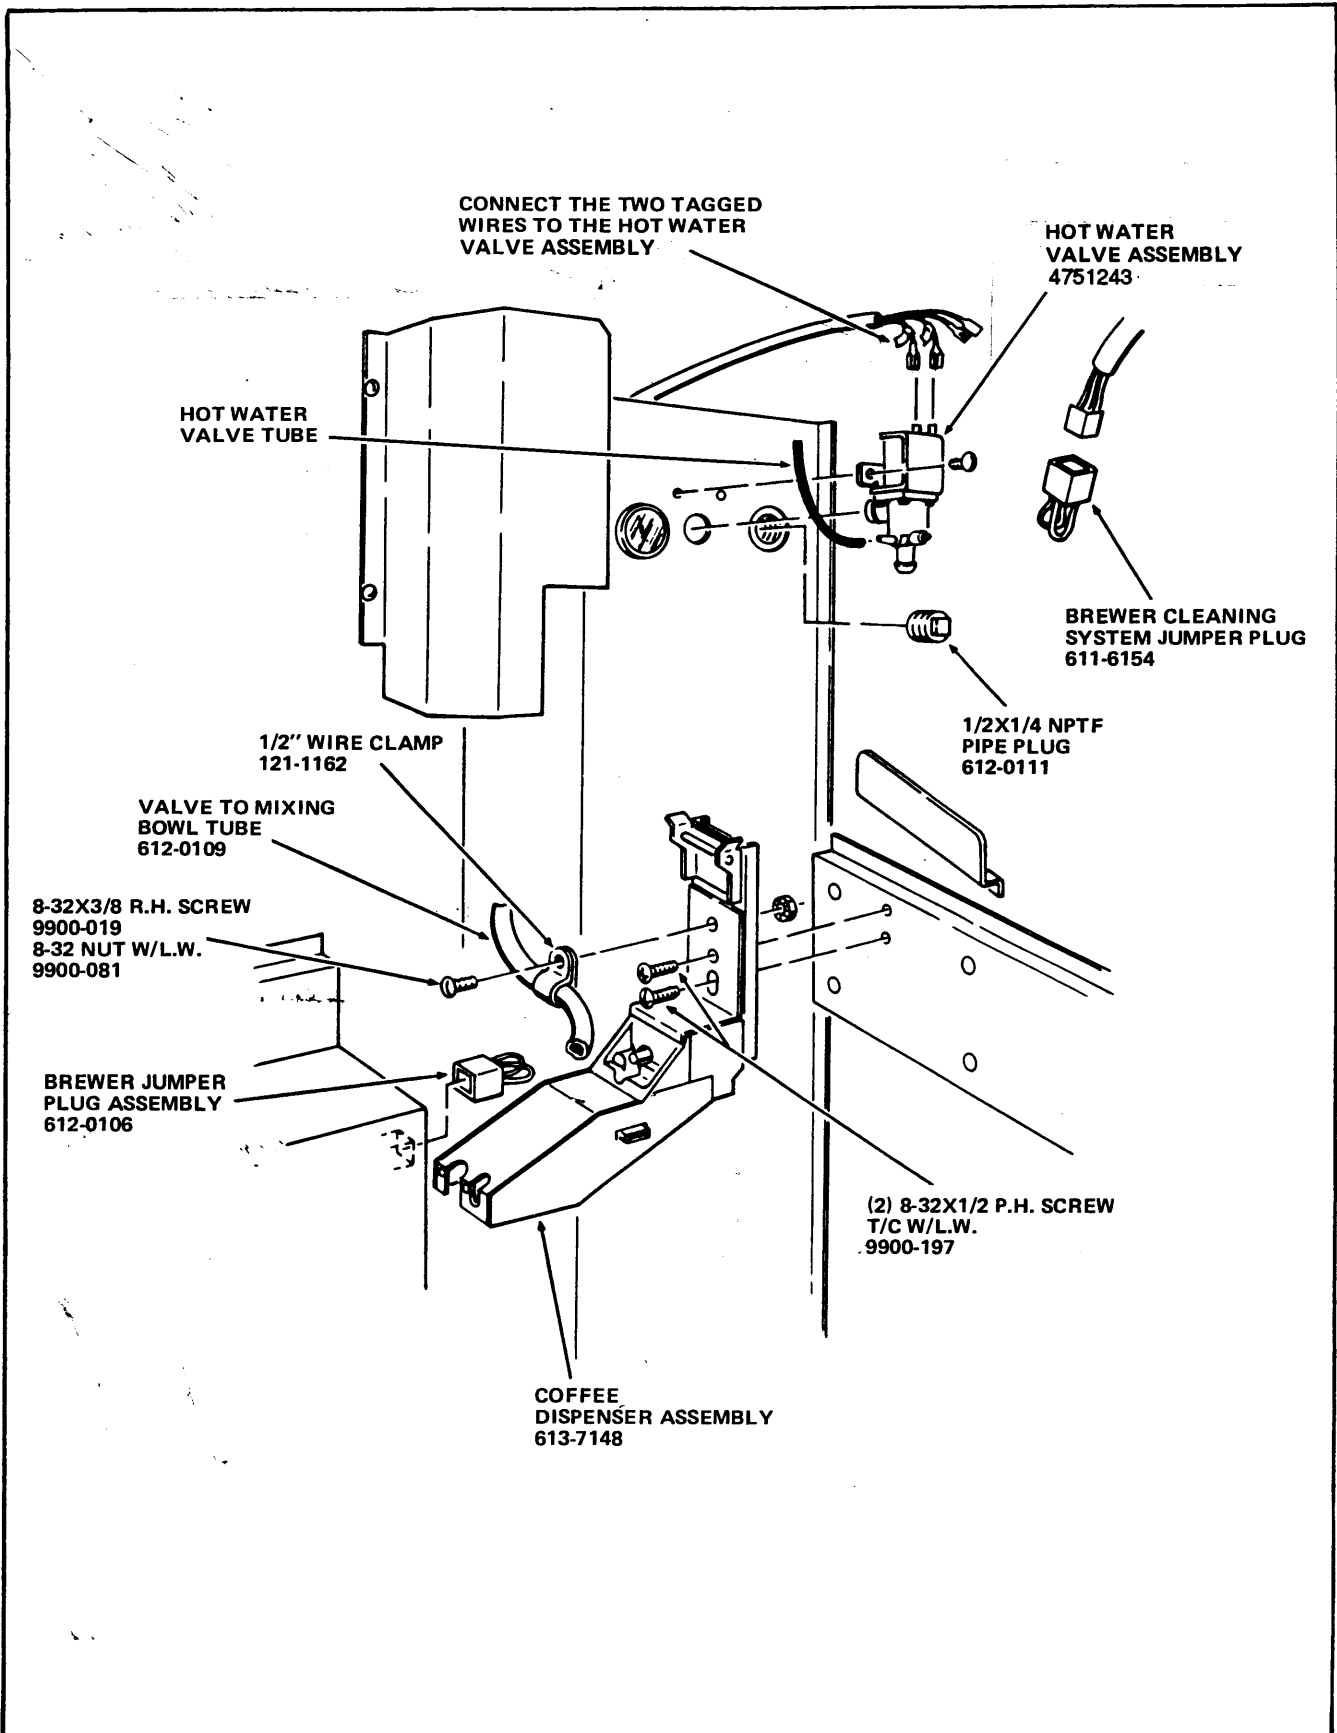

FIGURE 3
2. Attach the Tube (Valve to Mixing Bowl), Part Number 612-0109, to the Coffee Dispenser Assembly, using the 1/2 inch Wire Clamp, Part Number 121-1162, No.8-32 x 3/8 Round Head Screw, Part Number 9900-019, and No.8-32 Nut with Lockwasher, Part Number 9900-081, all parts included in the Kit. Do not tighten. See Figure 3.